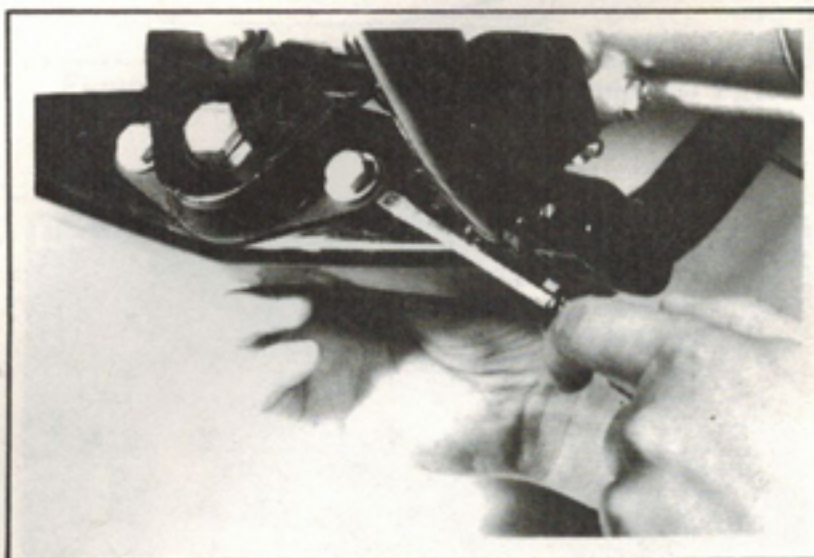

Figure 2-39. Aligning Mount Sideways
16. See Figure 2-39. Push the mount outer plate from side to side until the rubber bulge feels even with the outer plate at the bottom side of the mount (equal bulge). Retighten the two mount bolts to 33-38 ft-lbs torque.